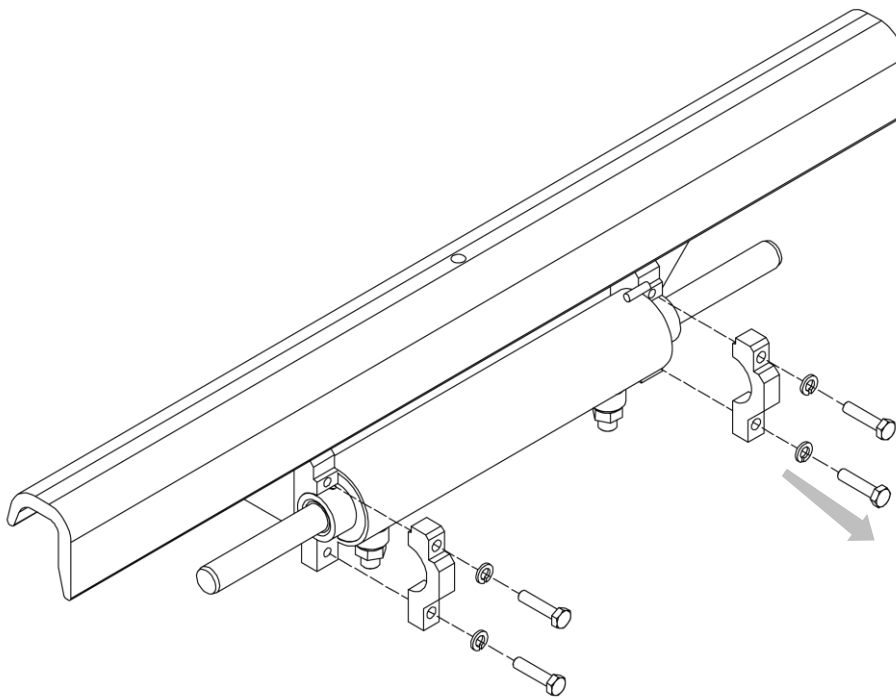

Figure 31
4. Use *Figure 31* as a guide.